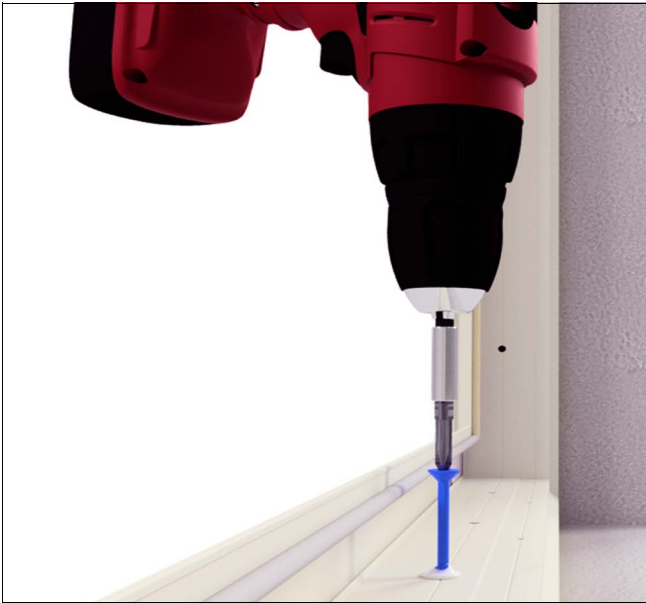

Figure 14
8. Fasten the unit into the opening through all installation holes using appropriate fasteners (See Typical Anchors on page 9). See Figure 14.